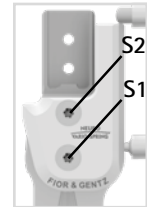

fig. 13
- 10 Screw in the second countersunk flat head screw (S2; fig. 13).